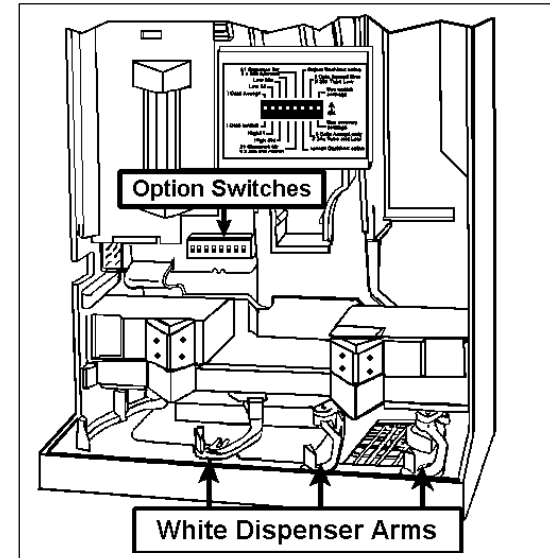

Figure 7
7. Set the option switches (Figure 7) as desired.
When you replace the coin cassette, you must first make sure that the white dispenser arms at the bottom of the unit are in the correct position (see Figure 7 on Page 7).
- For the VN4510 (MDB interface: 6 pin) see *Option Switch Settings B*. (See Fig. 7 on Page 7 for the location of the option switches in changer).
(see Figure 7)